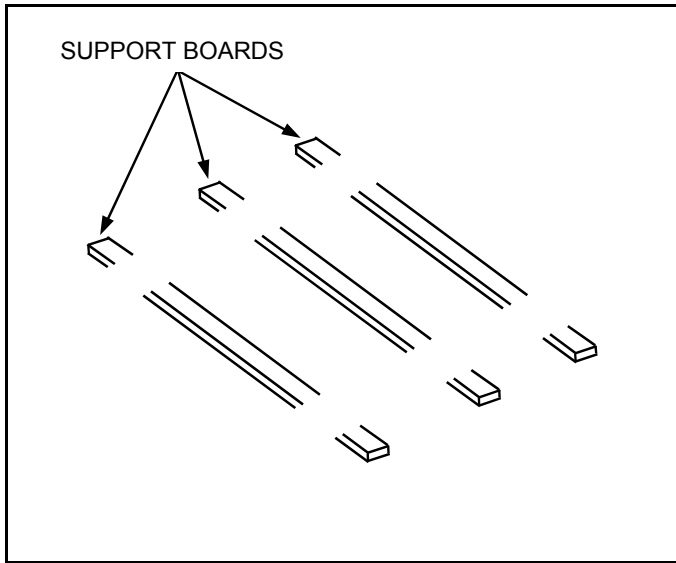

Figure 5
2. Nail 3 boards to bottom of opening as temporary supports for the stair. Figure 5